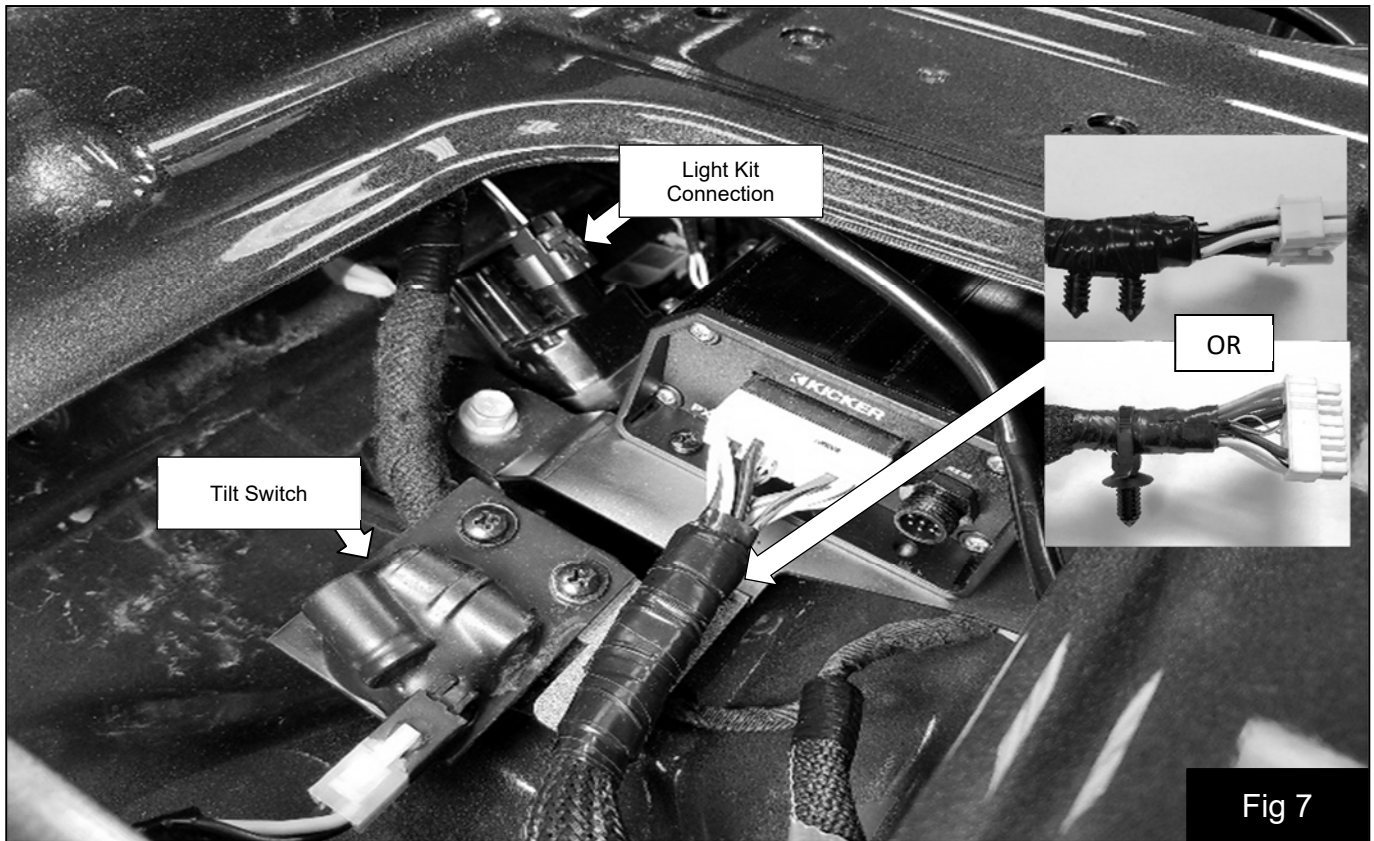

Fig 7
10. Connect the amplifier harness to the amplifier and the four-pin connector to the tilt switch attached to the amplifier bracket. Fig. 7 Route the harness along the factory harness toward the passenger side.
11. Secure the amplifier harness with one of the two supplied retainers. Fig. 7
12. Disconnect the connector pictured and install the light kit T-harness (if equipped). Fig 7